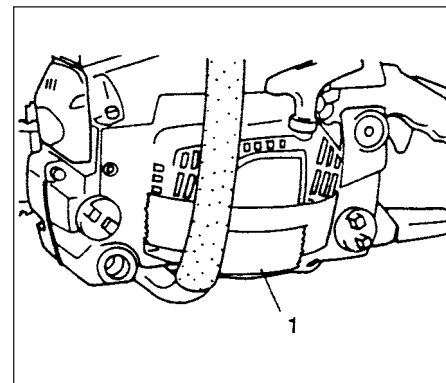

Fig.3-12B
When the unit is used in very cold weather, it is advisable to cover the slits of the halfway down of recoil starter side with glue tape (1) so that snow dust will not get into fan case. (Fig. 3-12B)